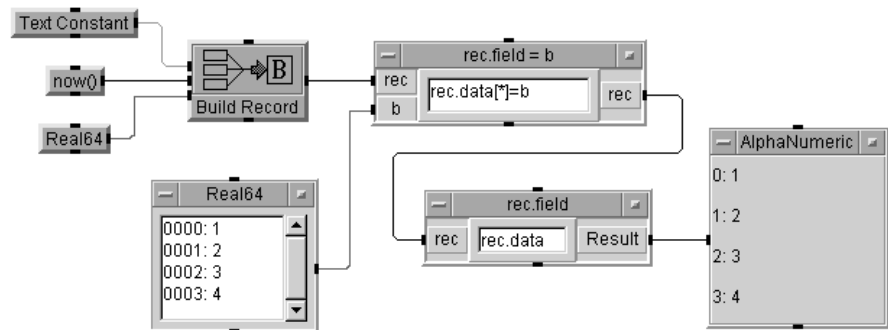

Figure 137 Using the Set Field Object
- 6 Run the program and save it as **setfield.vee**. The program should look like Figure 137.